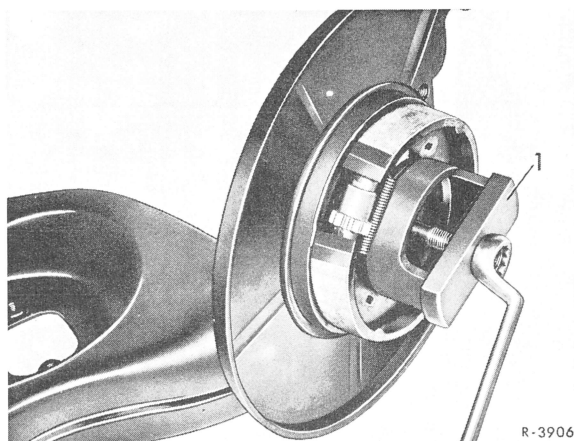

Fig. 8
**9** Pull bearing outer race of outer tapered roller bearing from wheel bearing with fixture (Fig. 8).